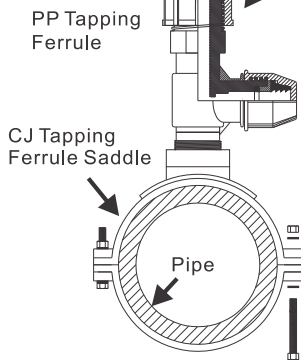

Fig.2
5. To perform tapping, remove the cap, insert the T-bar onto the recess of the cutter. (Figure 2)